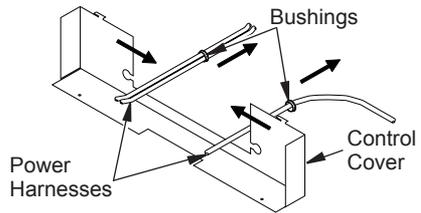

Figure 28 - Detaching Power Harnesses
6. Pop out bushings on control cover and slip power harnesses free from control cover (see Figure 28).